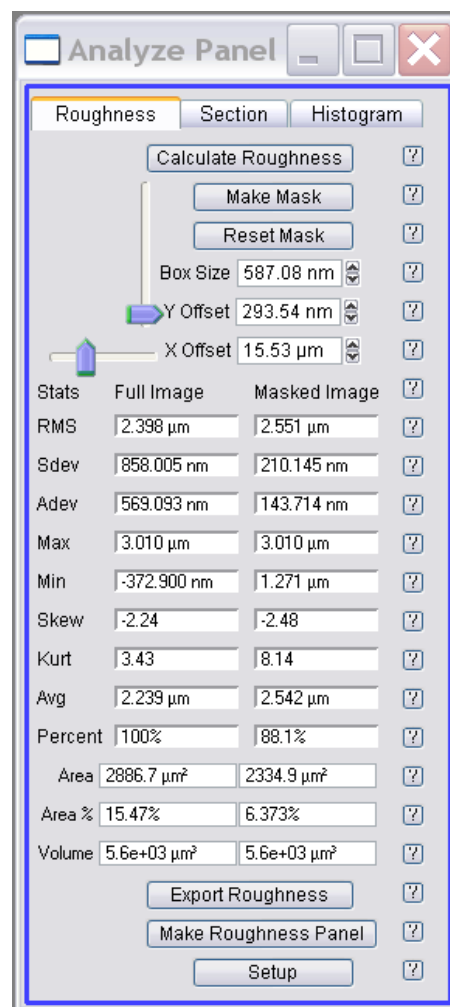

Figure 12.5.1.1: Roughness tab in the Analyze Panel.
- An example of image roughness measurements relative to surface features contained by the mask is shown in Figure 12.5.1.2. Panel (A) shows an image of a elastomeric mold that contains no image mask- Notice the 'Masked Image' column of the *Roughness* tab shows 'Nan N' which effectively is Igor speak for not a real number (i.e., no data) in the dimension of meters; Panel B shows the result of an 'iterative mask' with inverse checkbox NOT activated (see Figure 12.2.3.1)- the values in the 'Masked Image' column represent the areas outside the mask (i.e., the lighter areas of the image). Finally, in Panel C), the masked was manually set to include the smaller features of the mold above the plane of its main surface- these 'Stats' numbers represent the image with inverse checkbox activated.